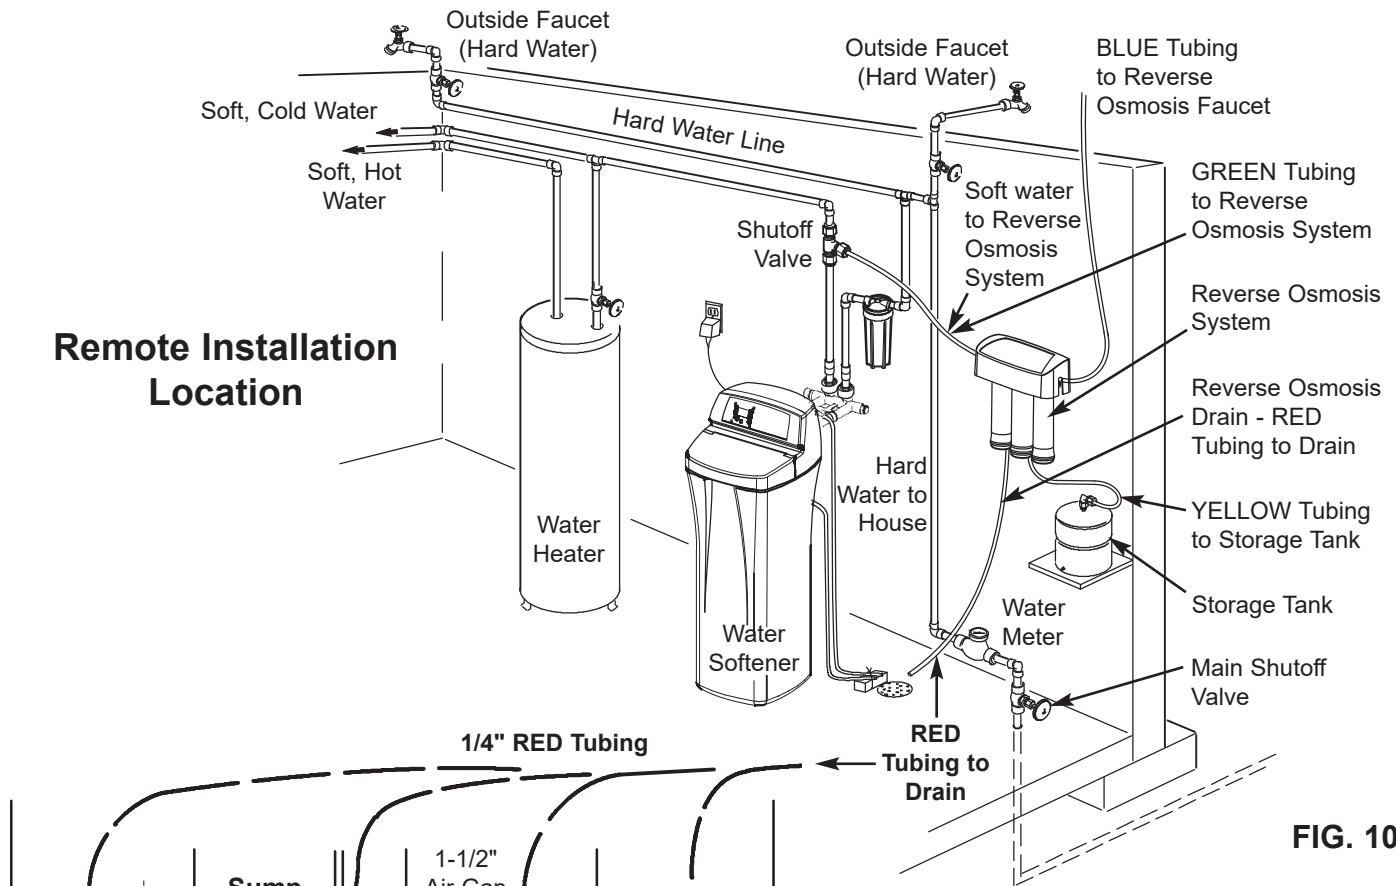

FIG. 10
As shown in Figures 10 and 11, the drain tube from the RO filter runs directly to an open drain. This is often used for remote location installations.
1. Locate the 1/4" red tubing on the Reverse Osmosis filter assembly. See Fig. 10.